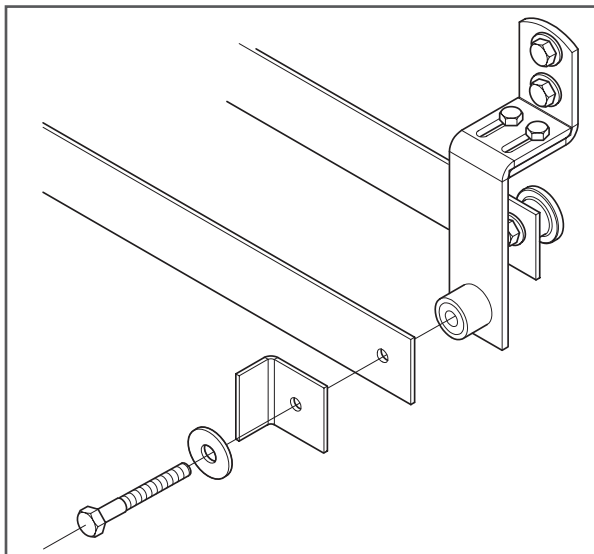

Figure 7
10. Attach one end of the second track to the bracket with one hard stop, lag bolt, and washer using a socket wrench with 9/16" socket (Figure 7). Do not tighten.